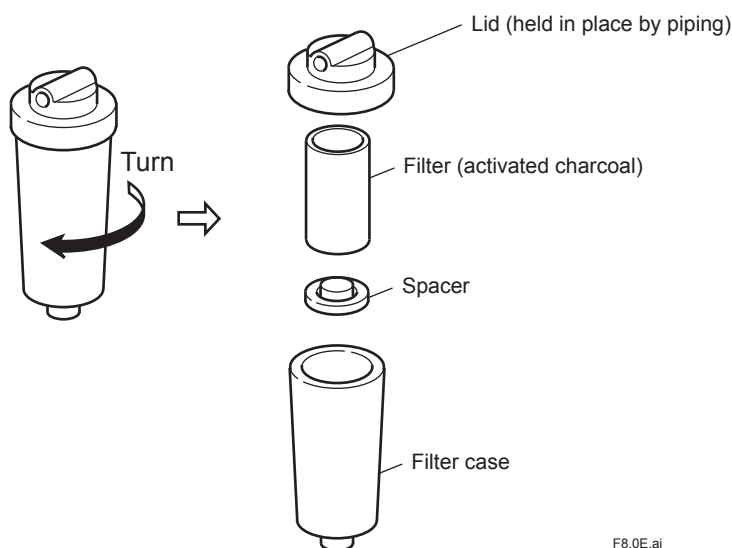

Figure 8.4
- (1) Close BV1 and BV2, then rotate filter case to remove (see Figure 8.4).
- (2) Clean inside of case with brush or the like.
- (3) As illustrated in Figure, replace filter with new one.
- (4) Reassemble using the reverse procedure, then open BV3 and BV1 to pass water through filter. Check that there are no water leaks from filter and piping, and no bubbles in drain water.
- (5) Operate for about 20 min. then confirm that free available chlorine analyzer reading is near zero.
- (6) Close BV3 and open BV2 ball valve.